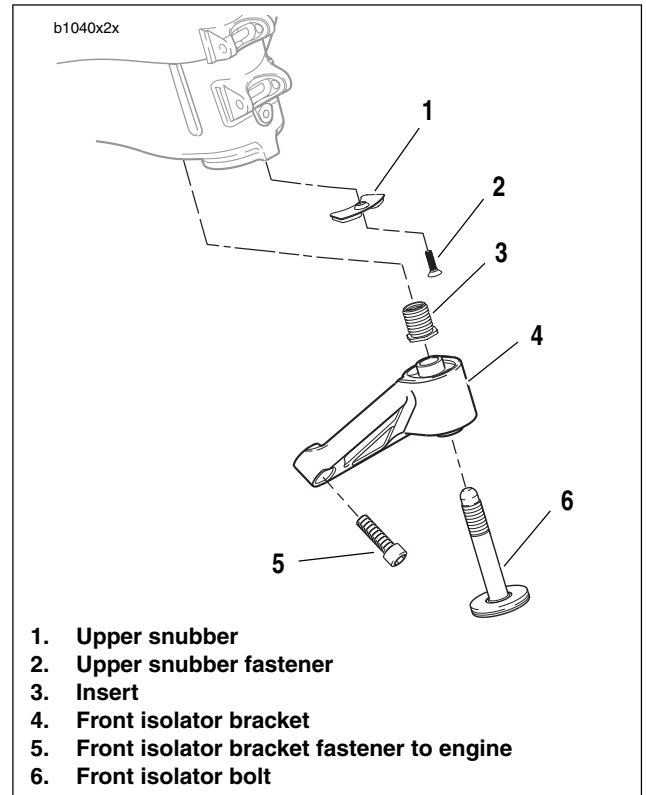

Figure 2-86. Front Isolator
3. See Figure 2-86. Remove front isolator bolt (6).
4. Remove front isolator mount fasteners (5).
5. Remove front isolator bracket (4).
6. Remove upper snubber fastener (2) and remove upper snubber (1).
See Figure 2-86. If the threaded insert (3) is damaged and needs to be replaced, install new insert with **LOCTITE 272** and tighten to 49-51 ft-lbs (66.4-69.1 Nm).
7. See Figure 2-86. Install upper snubber (1) tightening snubber fastener (2) to 12-36 **in-lbs** (1-4 Nm).
9. See Figure 2-86. Use **LOCTITE 272** on front isolator bracket (4) and install. Tightening fastener (5) to 49-51 ft-lbs (66-69 Nm).